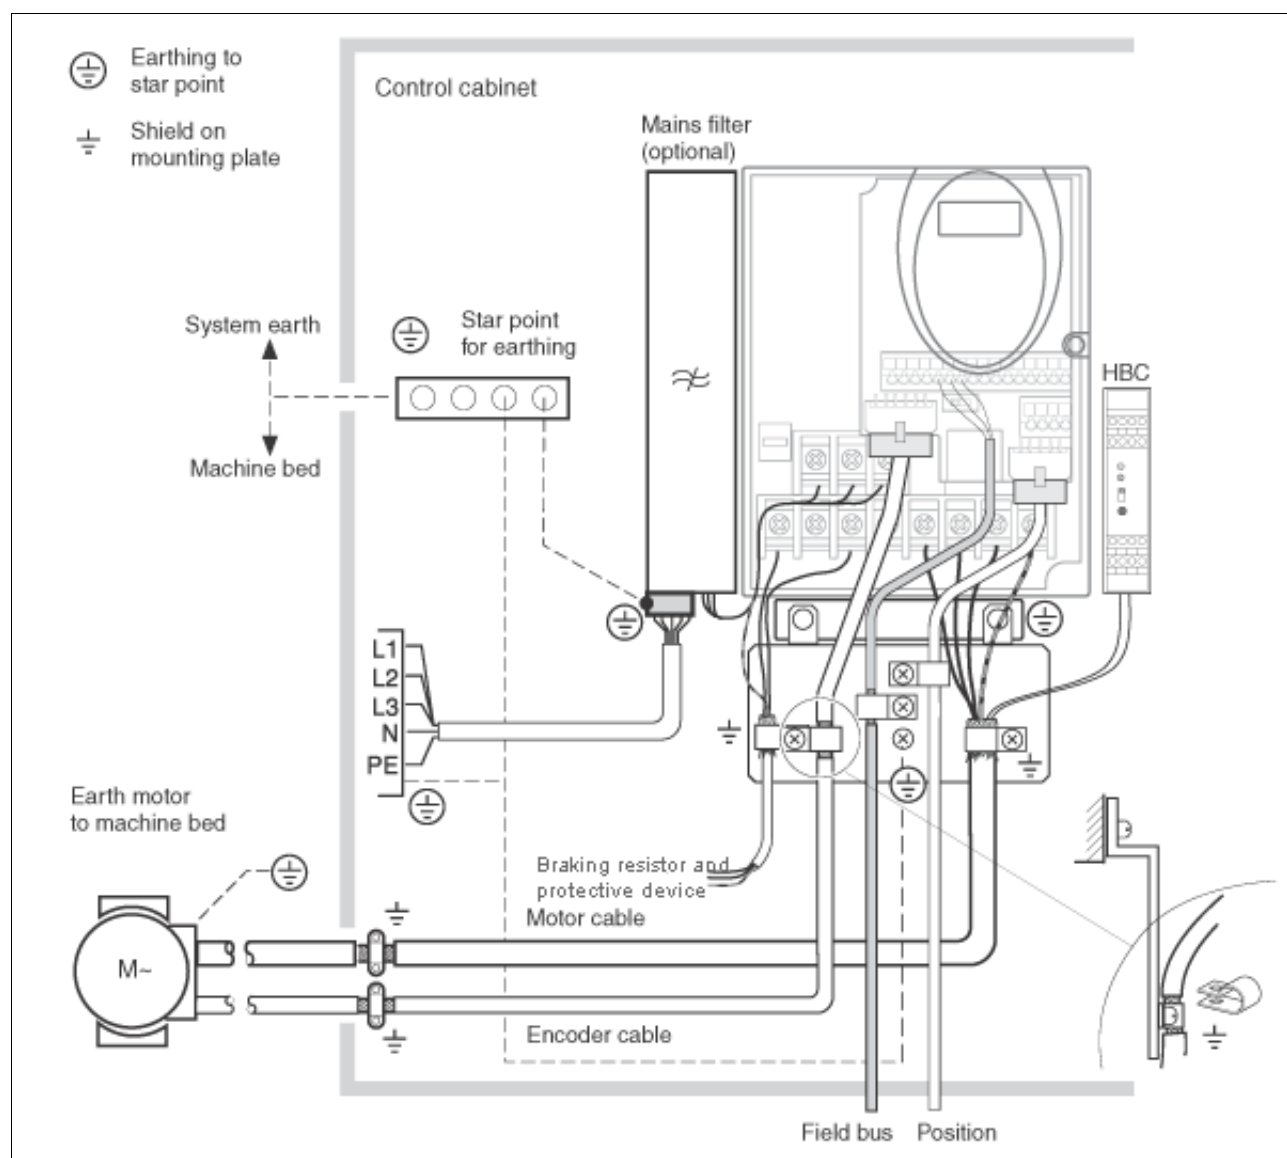

Figure 6.1 EMC measures
- ▶ Attach the EMC plate at the bottom of the device, see also Figure 6.1, or use alternative attaching elements (comb bars, shield clamps, busbars).